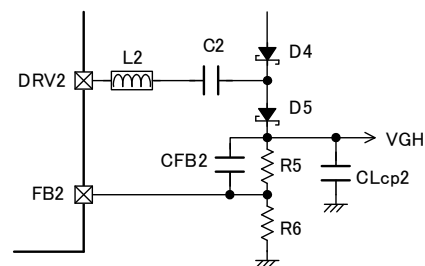

Figure 4.
- When load of inverting charge pump and step-up charge pump are with no load and load current of step-up DC/DC converter is large, the output of the each charge pump may become unstable by switch of step-up DC/DC converter. In case of that, please put a ferrite bead (L2) into a driver output (DRV1 pin and DRV2 pin) of the each charge pump. (Please refer to figure 4.)